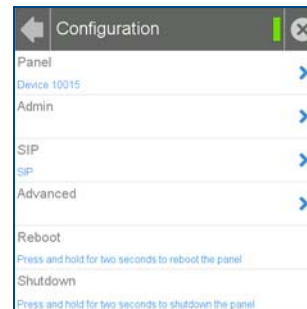

FIG. 4 CONFIGURATION PAGE
2. Enter the panel password into the keypad (the default is 1988) and select **OK** to access the page (FIG. 4).